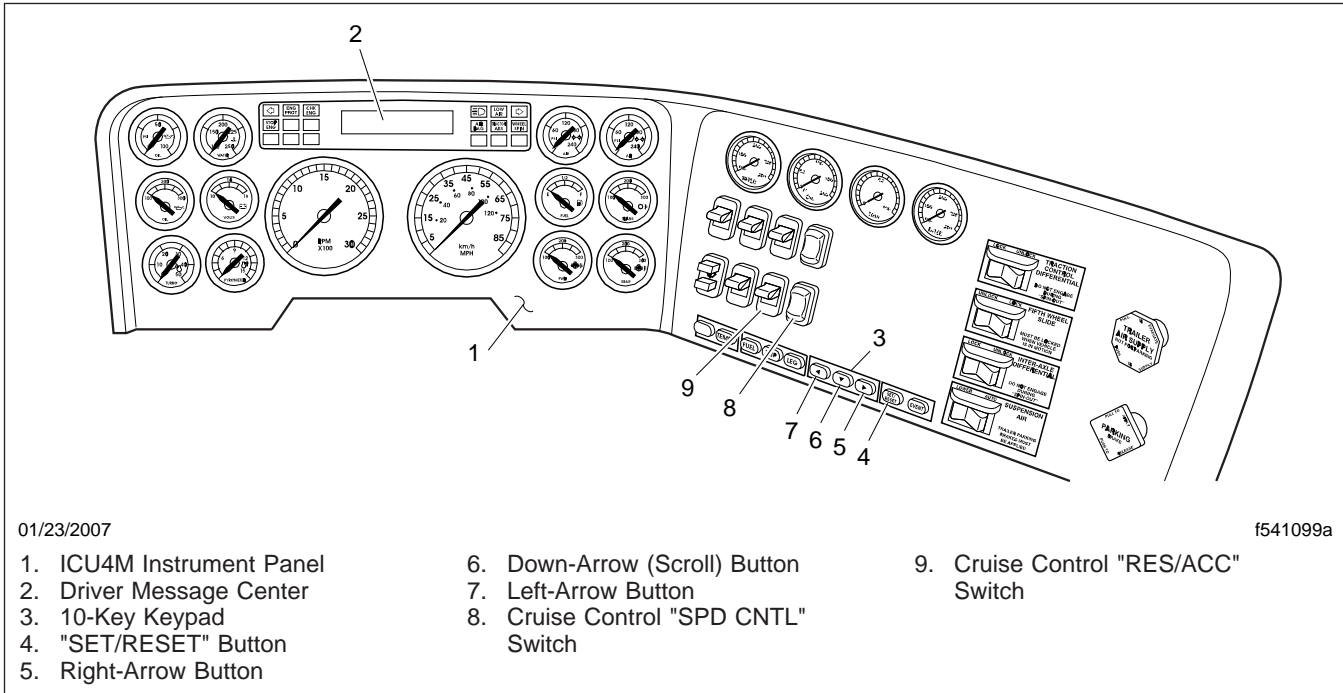

Fig. 1, ICU4M Instrument Panel (Century, Columbia, Argosy, and Coronado)
3. Find the right-arrow button on the 10-key keypad, on the "B" dash panel. See Fig. 1. Press the right-arrow button once to display "TRIP INFORMATION".